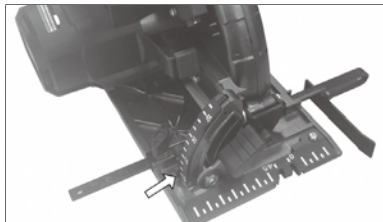

FIG. 15
1. To adjust the angle of cut between 0-45° slacken the adjustable angle of cut locking knob, Fig.15.